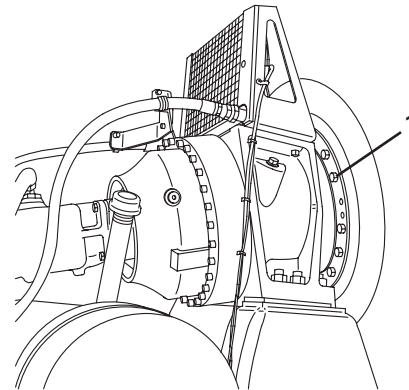

Figure 148
8. Check the drum flange bolt (Figure 148, Item 1) torque. (Refer to the Service Manual for torque values.) If a bolt turns during this check, that bolt must be removed and replaced with a new Grade 8 bolt.